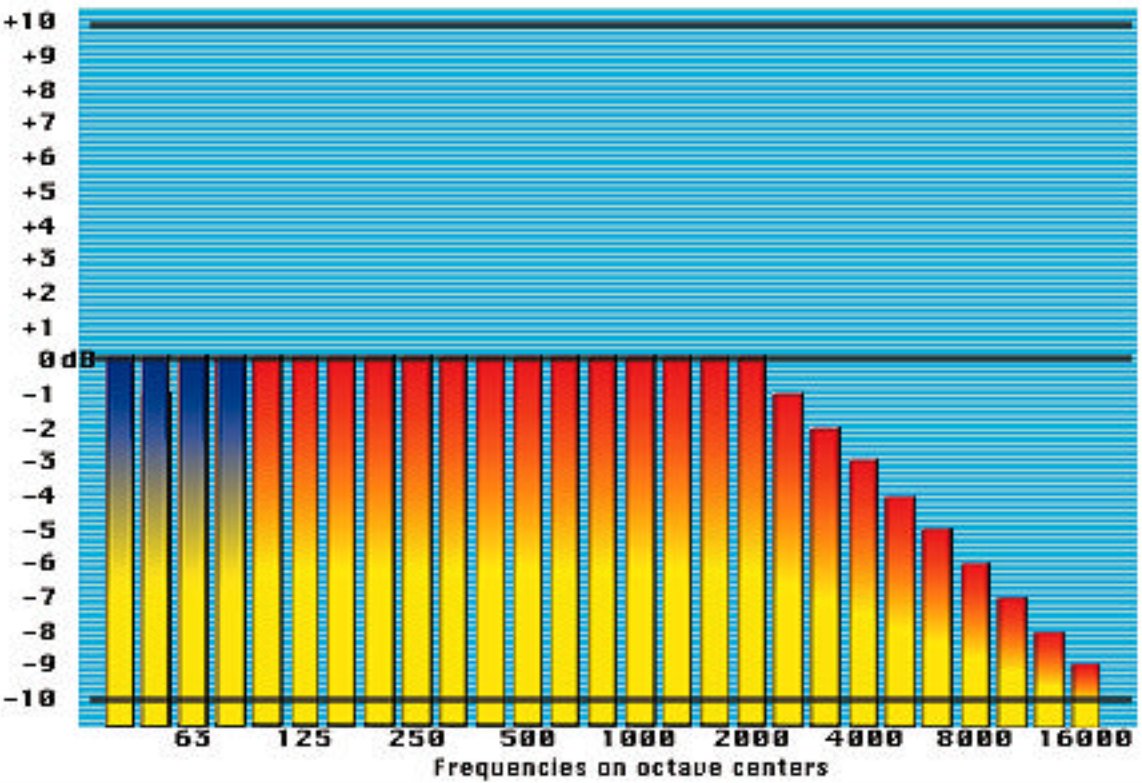

Figure 3
3. Place the processor in the optical format. Now adjust the optical subwoofer level so that the subwoofer frequencies are even with the reference line established by the center channel. See Figure 3.